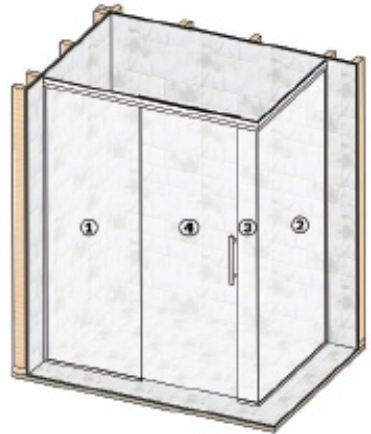
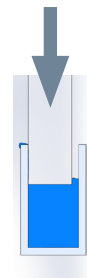

FIG.10
FIG.11
- When panels are correctly aligned, remove Panel 1 (FIG 10). and run a thick continuous line of silicone down the inside of the wall channel (FIG 11) and apply liberally in the wall to floor channel join and along the floor channel to the length of the glass panel.